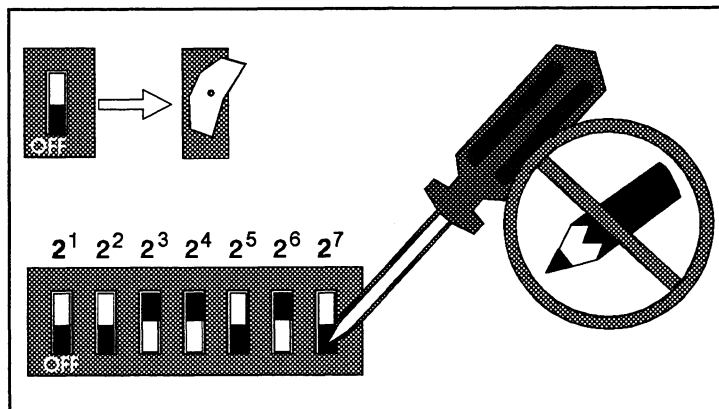

Fig. 4.1 Setting the coding block for the page number
- In Fig. 4.1, the page number $2^3 + 2^4 + 2^6 = 88$ is set